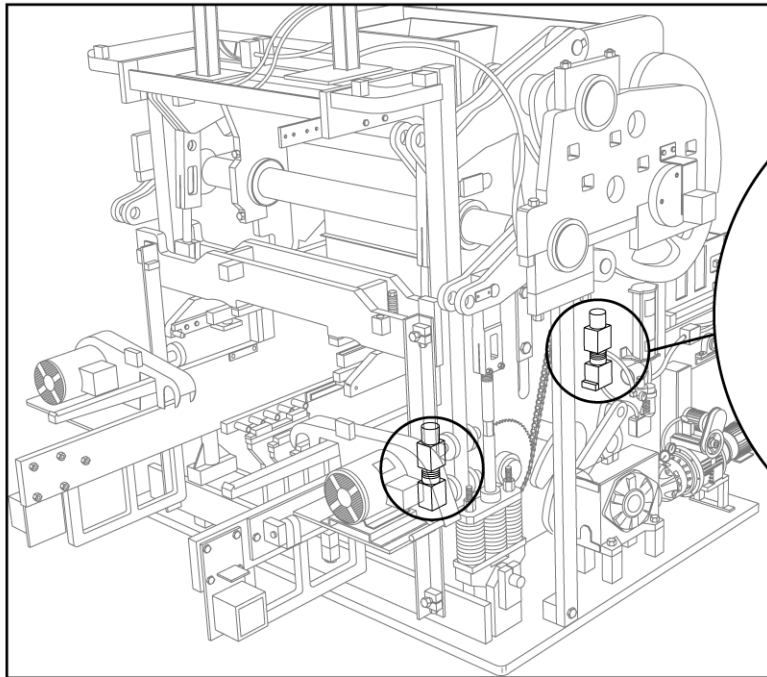

Figure 4.50 BOLTS AT ALL 4 CORNERS
- b. Loosen bolts at all 4 corners that secure mold throat assembly (figure 4.50 and 4.51). Remove top spacers.